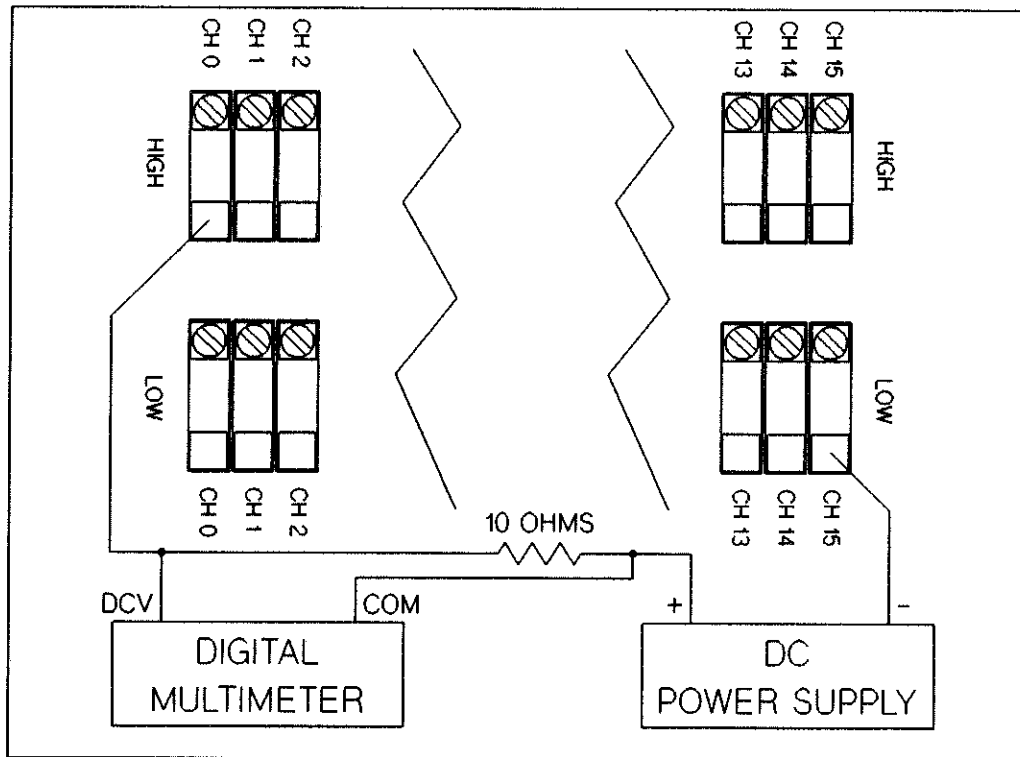

Figure 13-7 Even Channel Sink Current Test Set-Up
- Set the power supply to output approximately +5 V dc. Connect the 10 ohm resistor (R) between the power supply + output and the even channel HIGH connections on the test fixture. Connect the power supply's - output to the shorted LOW connections on the test fixture. The connections are shown in Figure 13-7.
- Set the multimeter to measure dc volts. Connect the DCV (HI) input of the multimeter to the shorted even channel HIGH connections on the test fixture. Connect the multimeter COM (LO) input to the + output on the power supply. The connections are shown in Figure 13-7.